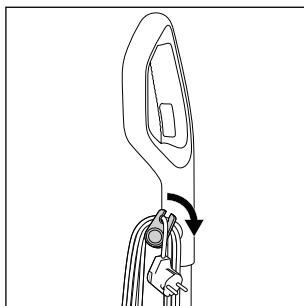

Fig. 16
- ◆ Unwind the power cable **17** completely from the upper and lower cable retainers **16/20**. To unwind the power cable **17** quickly from the cable retainers **16/20**, pull the upper cable retainer **16** out a little way and turn it downwards (see fig. 16).